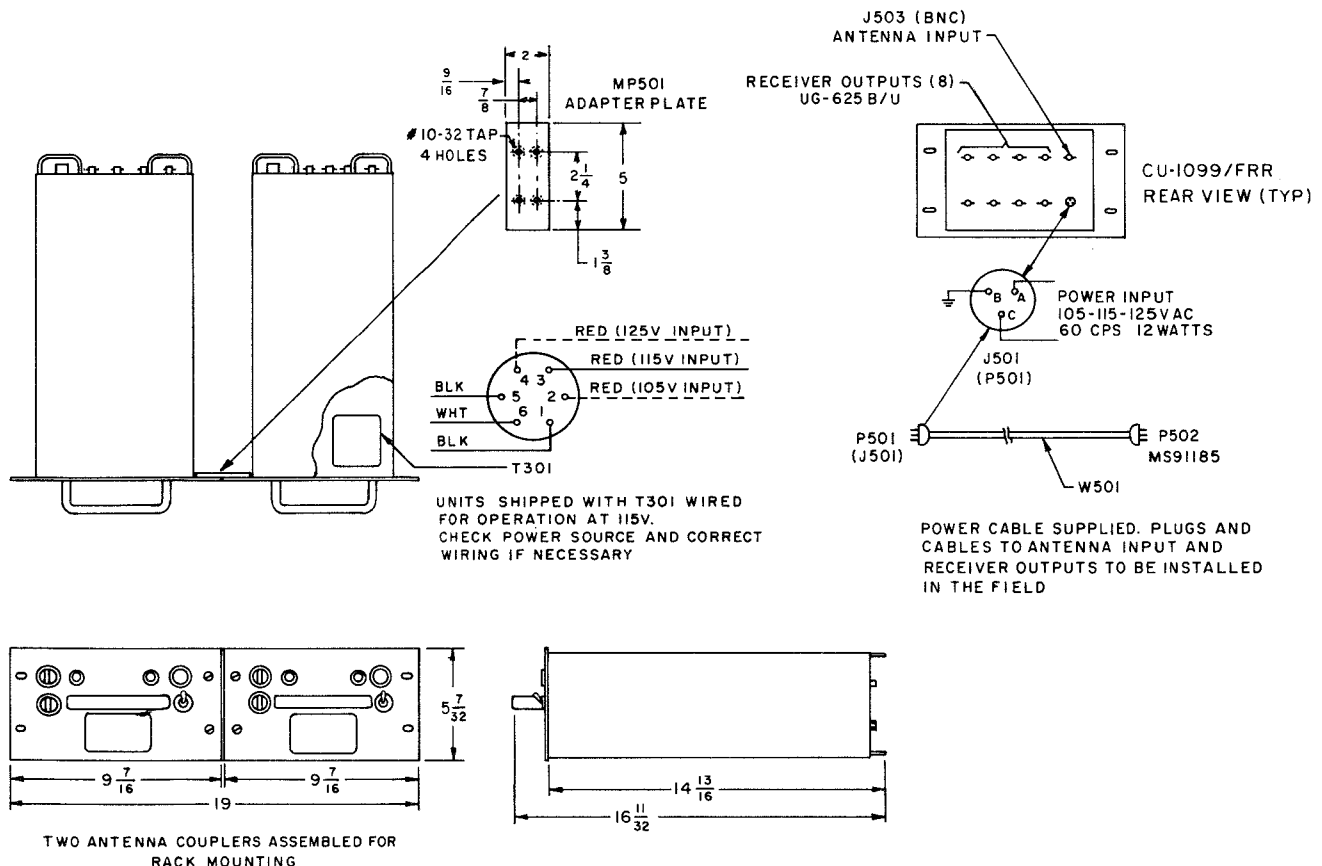

Figure 2-1. Installation Drawing, Antenna Coupler CU-1099/FRR
a. Mounting. - The front panel of the CU-1099/FRR is designed to support the full weight of the unit. One adapter plate is supplied with each two units. Tied together with the adapter plate as shown in figure 2-1,
b. Power Input. - (See figure 2-1) Before attempting to energize the CU-1099/FRR, check the power source and the wiring of T1 against table 2-1. Power input connector J501 is located at the lower right of the rear panel. A 6-foot power cable is supplied with each coupler.